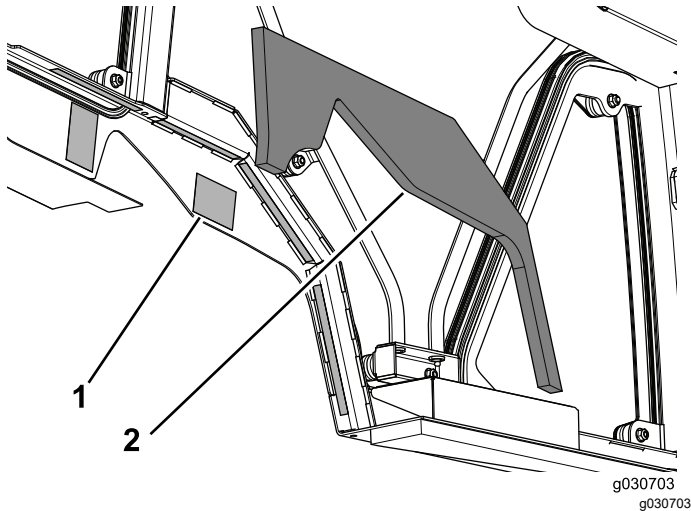

Figure 15
- Remove the paper backing from the double-faced tape on both sides of the cab unit (Figure 15).
- Apply the left tank foam to the cab unit (Figure 15).